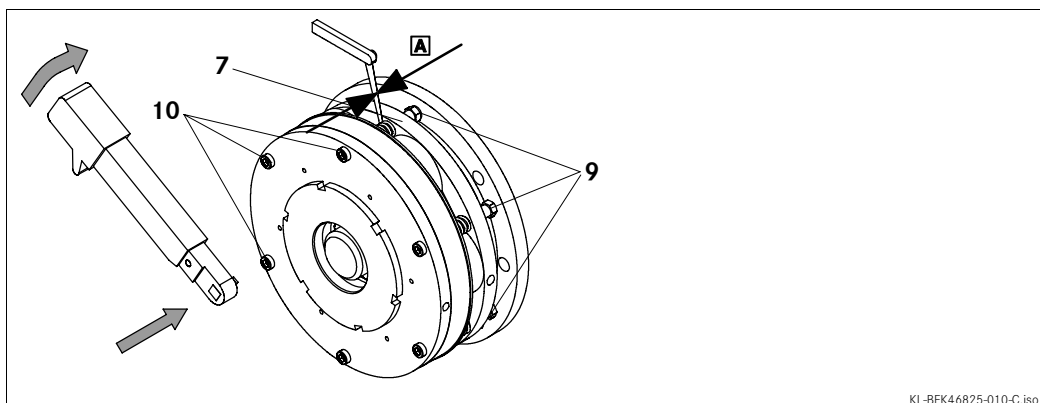

Fig. 8 Checking the air gap $s_{L\ddot{u}}$
6. Tighten the screws (10) evenly (for torques see table chapter 3.3 and Fig. 8).
7. Check the air gap " $s_{L\ddot{u}}$ rated" near the bolts (10) by means of the thickness gauge (" $s_{L\ddot{u}}$ rated" see table chapter 3.3 and Fig. 8).